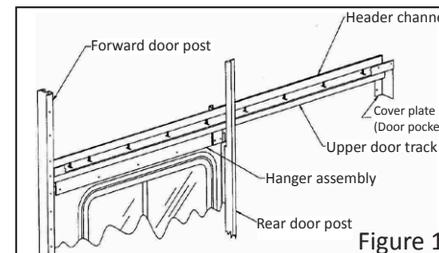

Figure 1
- Loosen all of the nuts on the studs that are on the upper door track (see figure 1) There are slots in the channel for adjustment purposes.
- Remove the door pocket end cap if necessary, so that the upper door track can be adjusted easily (see figure 1)